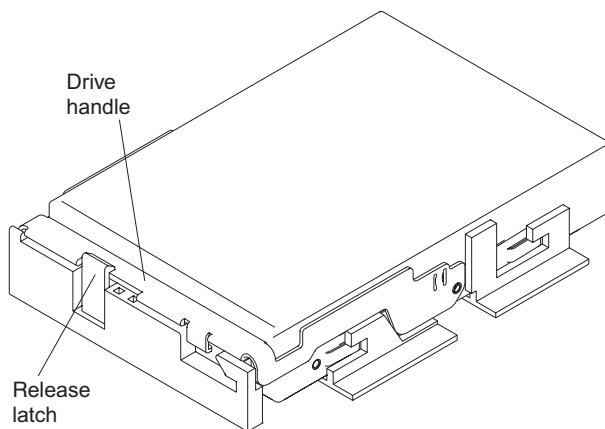

Figure 73. Locking the drive in place
- c. Lower the drive straight down; then, rotate the drive handle down until the drive snaps into place under the drive release lever. See Figure 73.